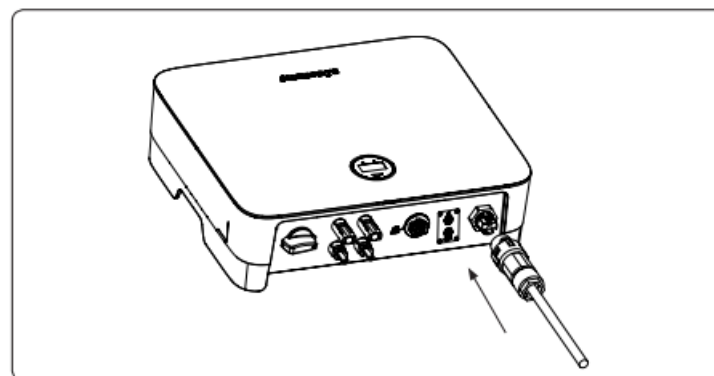

Figure 4-18 Connect the AC connector
5. Connect the AC connector to the inverter AC terminal, and the slight click shows that the connection is in the place. As shown in figure 4-18: